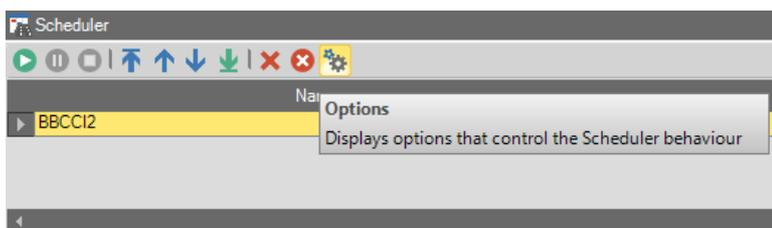

Figure 4-87. Scheduler tool
1. From the **Qtegra - [Home Page]**, click **Scheduler** to open the **Scheduler** tab, see Figure 4-87.